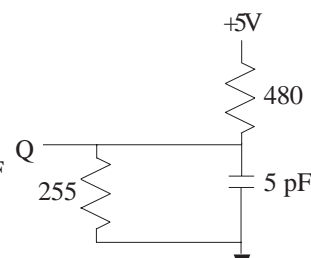

Fig. 2
- tHZCE, tHZOE and tHZWE are specified with CL = 5pF as in Fig. 2. Transition is measured ±500mV typical from steady state voltage, allowing for actual tester RC time constant.